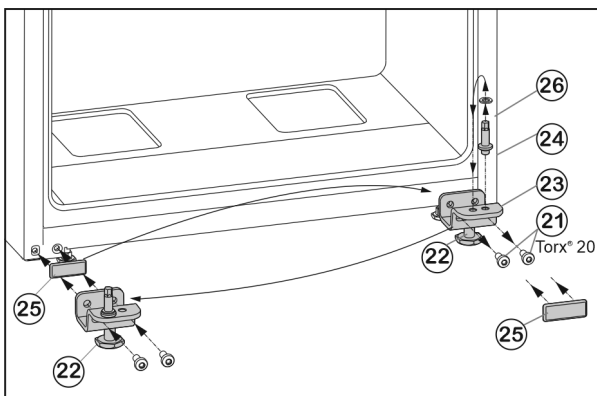

Fig. 7
- ▶ Unscrew fastening screws Fig. 7 (21).
- ▶ Remove the lower bearing block Fig. 7 (23), complete with bearing bolt Fig. 7 (24), washer Fig. 7 (26) and adjustable foot Fig. 7 (22).
- ▶ Unscrew the bearing bolt Fig. 7 (24), complete with washer Fig. 7 (26), re-locate it into the mounting hole on the opposite side of the bearing block and tighten again.
- ▶ Carefully remove the cover plate Fig. 7 (25) and re-locate it to the other side.
- ▶ Fasten the lower bearing block Fig. 7 (23), complete with bearing bolt Fig. 7 (24), washer Fig. 7 (26) and adjustable foot Fig. 7 (22) to the new hinge side, with the help of a cordless screwdriver if necessary, and **tighten (with 4 Nm)** once again.
- ▶ Lower the bottom door onto the bearing bolt Fig. 7 (24).
- ▶ Insert the centre bearing block (13) turned through 180° into the lower door and fasten firmly (**with 4 Nm**) to the new hinge side with the fastening screws (11) (2 x Torx® 20).
- ▶ Refit plastic washer (10).
- ▶ Unscrew the adjustable foot Fig. 7 (22) on the lower bearing block Fig. 7 (23) until it reaches the floor.